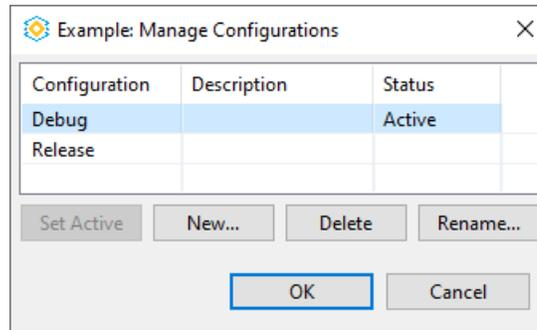

Figure 3.21. Manage Configurations Dialog
- b. The Manage Configurations dialog opens (Figure 3.21) for choosing active configuration. By default, a **Debug** configuration creates executables containing additional debug information that lets the debugger make direct associations between the source code and the binary files generated from the original source. A **Release** configuration provides the tools with options setting to create an application with the best performance.